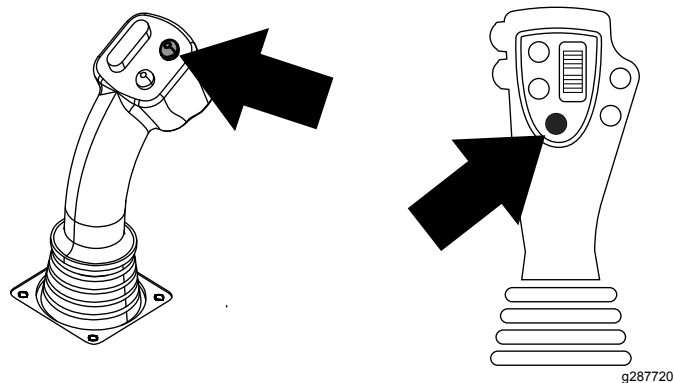
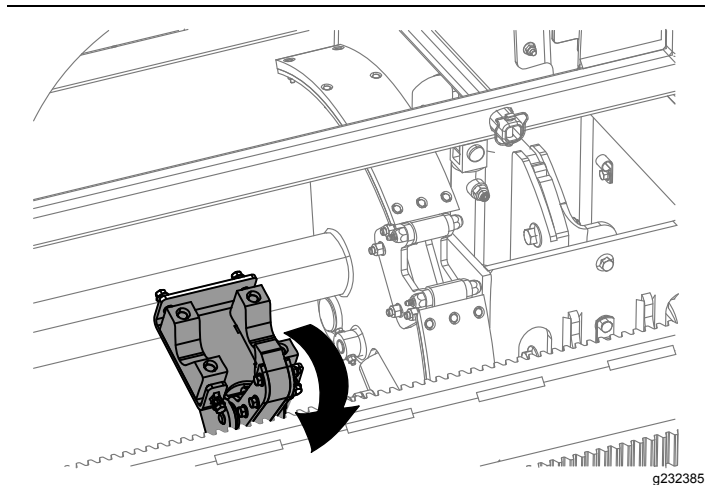

Figure 43
Figure 44
10. Hold the lower left button on the 8-button joystick or the lower button on the 4-button joystick to release the pipe (Figure 43 and Figure 44) and release the button.